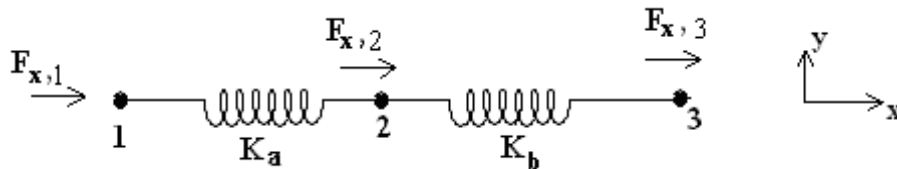

Figure 8
8. The two elastic springs are joined as shown in figure 8. Develop the stiffness matrix and then find internal forces in the springs. Explain the properties of the stiffness matrix developed. [12+4]